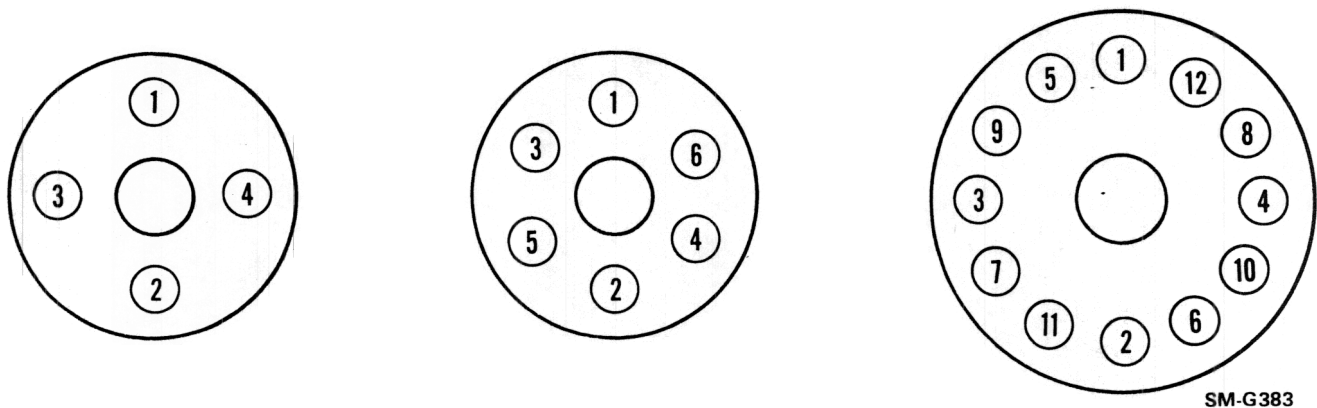

Figure 3-2. Cap Screw Tightening Order
8. Loosen the cap screws, in the order shown in figure 3-2, to 60% of the torque specified in table 3-2. Loosen the cap screws to 30%, and then 10% of the torque specified. Remove cap screws one at a time. Ensure each cap screw is adequately greased. Replace each cap screw but do not tighten.
10. Tighten the cap screws to 3 lbf-ft (4.1 N-m) torque in the order shown in figure 3-2.
12. Tighten the cap screws to 10 lbf-ft (13.5 N-m) torque in the order shown in figure 3-2.
14. Tighten the cap screws in the order shown in figure 3-2, to 30% of the torque specified in table 3-2. Repeat step 11. Tighten the cap screws to 60% of the torque specified. Repeat step 11. Tighten the cap screws to 100% of the torque specified. Repeat step 11.
After completing this procedure, install a dummy specimen and check for a separation gap between the load cell and the crosshead at maximum tensile test load. If a gap occurs, increase the torque on the cap screws in the order shown in figure 3-2 until there is no separation of the load cell from the crosshead. Repeat step 11.
4. Loosen the cap screws in the order shown in figure 3-2, to 60% of the torque specified in table 3-2. Loosen the cap screws to 30%, and then 10% of the torque specified. Remove cap screws one at a time. Ensure each cap screw is adequately greased. Replace each cap screw but do not tighten.
6. Tighten the cap screws to 3 lbf-ft (4.1 N-m) torque in the order shown in figure 3-2.
10. Tighten the cap screws in the order shown in figure 3-2 to 30% of the torque specified in table 3-2. Repeat step 7. Tighten the cap screws to 60% of the torque specified. Repeat step 7. Tighten the cap screws to 100% of the torque specified. Repeat step 7.
After completing this procedure, install a dummy specimen and check for a separation gap between the load cell and crosshead at maximum tensile test load. If a gap occurs, increase the torque on the cap screws in the order shown in figure 3-2 until there is no separation of the load cell from the crosshead. Repeat step 7.